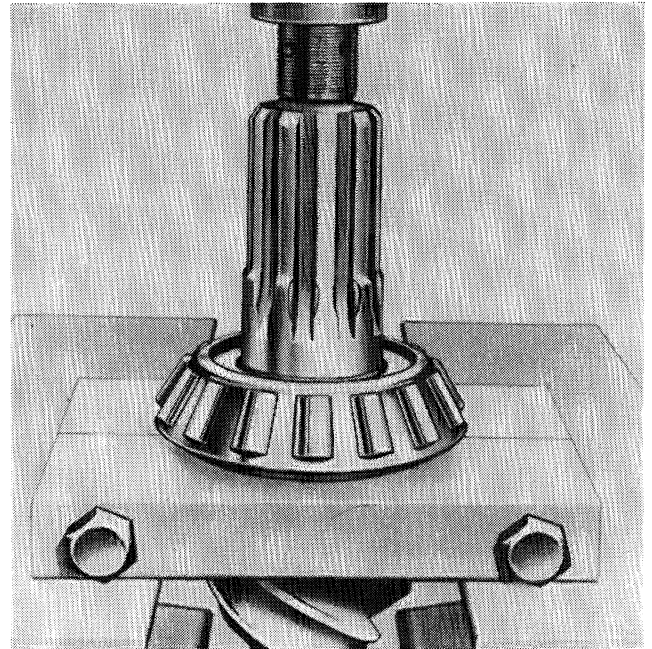

Figure 9. Removing Inner Bearing
1. Press the inner pinion bearing off the pinion shaft, Figure 9.